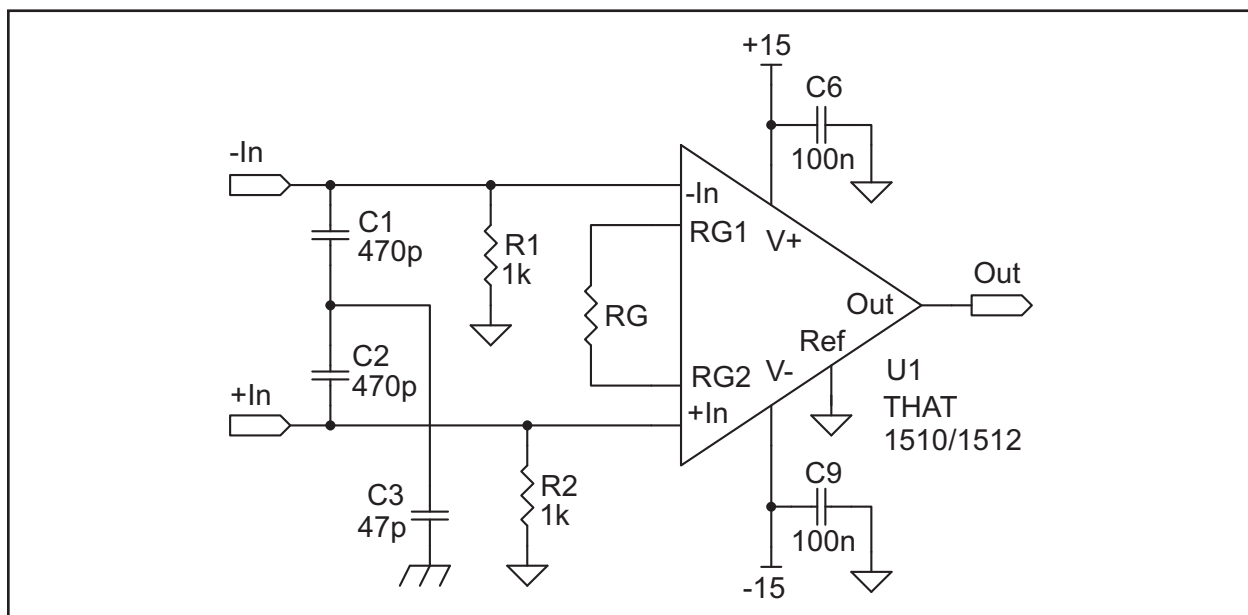
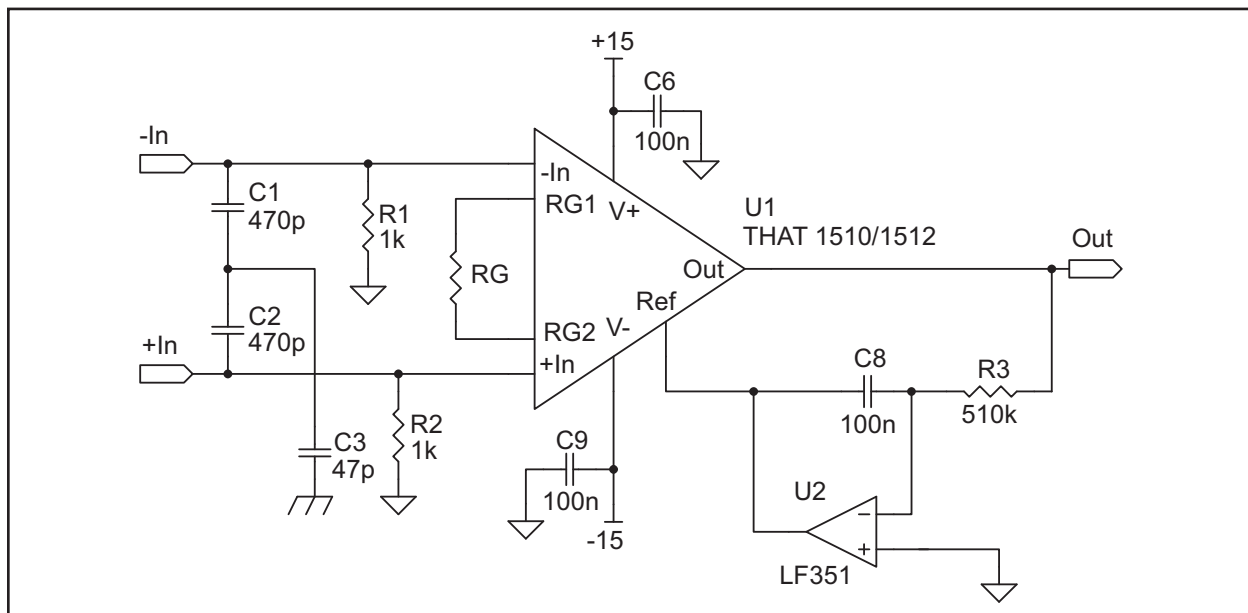
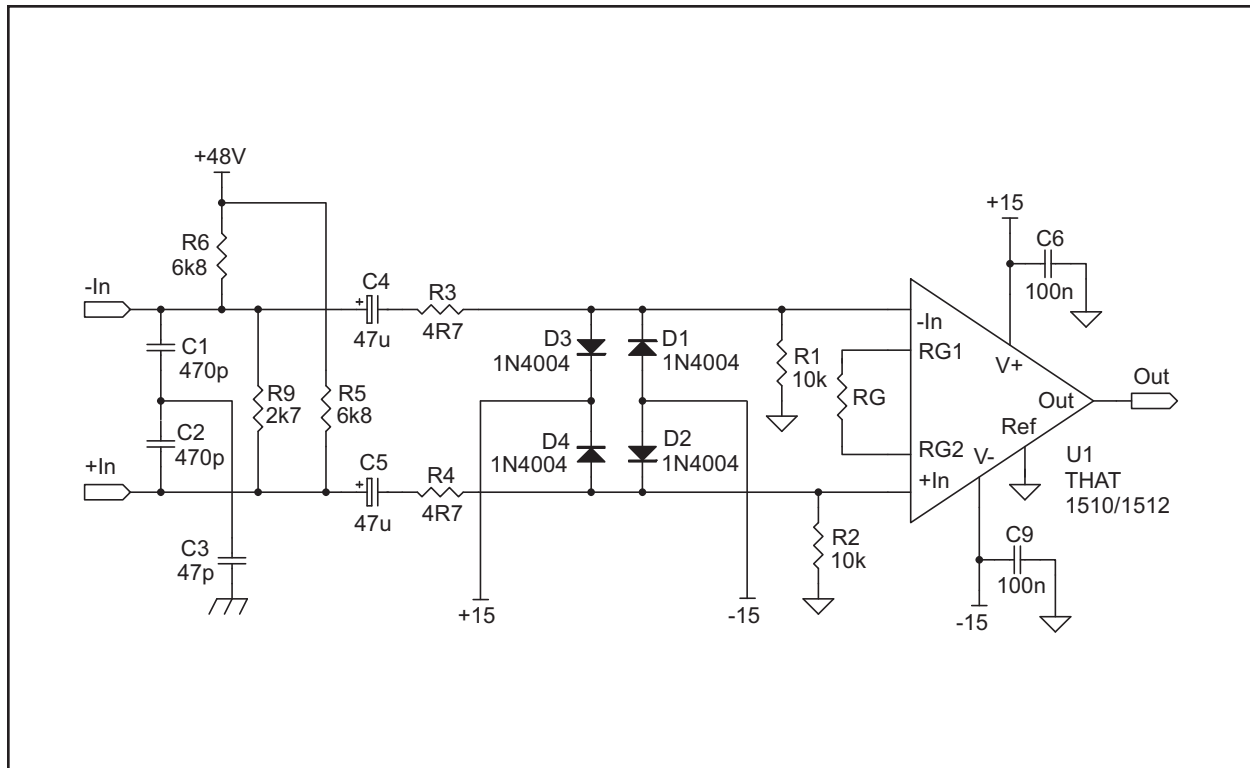

Figure 2. Basic 1510 / 1512 Circuit
Figure 3. 1510 / 1512 Circuit with Output Offset Servo
Figure 4. Recommended 1510 / 1512 Circuit with Phantom Power
Other than the connection to the protection diodes, the 1510/1512 input pins are connected only to the bases of their respective input devices. For proper operation, the bases must be provided a source of dc bias that will maintain the inputs within the IC's input common-mode range. Two different schemes for this are shown in Figures 2 and 3. Figure 2 is simple, but its output will need to be ac-coupled to the next stage, particularly if R_G is variable to allow gain adjustment. Figure 3 shows the addition of an integrator to servo the output offset. In this circuit, the output offset will depend on that of the external opamp U2, which may be small enough to avoid ac-coupling the output.
Phantom power is required for many condenser microphones. THAT recommends the circuit of Figure 4 when phantom power is included³. R3 and R4 are used to limit the current that flows through the bridge circuit of D1 through D4 when C4 and C5 are discharged after being charged to 48V from the phantom voltage supply. R3 and R4 should be kept very small as shown in order to introduce minimal additional noise. C4 and C5 should be kept large to minimize high-pass filtering of the signal, and to avoid amplification of low-frequency current noise in the 1510/1512 input stage.
Other manufacturers have recommended, and many pro audio products include, a zener diode arrangement connected to the bridge rectifier instead of the connection to V+ and V- as shown in Figure 4. While this arrangement does not keep the inputs inside the common mode range, it has the advantage of working even when the power is off. For further insights into this subject, see the Audio Engineering Society preprint "The 48 Volt Phantom Menace," by Gary K. Hebert and Frank W. Thomas, presented at the 110th AES Convention.
A higher common-mode input impedance may be desirable (compared with that of Figures 2 and 3), especially when a mic pre-amp input is configured to double as a line receiver. The circuit of Figure 4 also accommodates this objective. In this circuit, R1 and R2 are increased to 10k Ω , boosting the low-frequency common-mode input impedance from 500 Ω to about 2 k Ω . A value of 2.7 k Ω for R9 keeps the differential input impedance at 2 k Ω without reducing the common-mode input impedance.
5.1 k Ω resistors from the line input's + and - input terminals to the positive and negative inputs, respectively, of the 1510/1512 of Figure 4. This increases the differential line input impedance to \sim 12.2 k Ω , and results in a net attenuation (pad) of approximately 15.7 dB between the line input and the output shown in Figure 4. Since, in many pro audio applications, the minimum pre-amp gain is 10 dB, the pad effectively cancels out this minimum gain while adding an additional 6dB of attenuation, which allows the resulting line input to accommodate high line level signals.